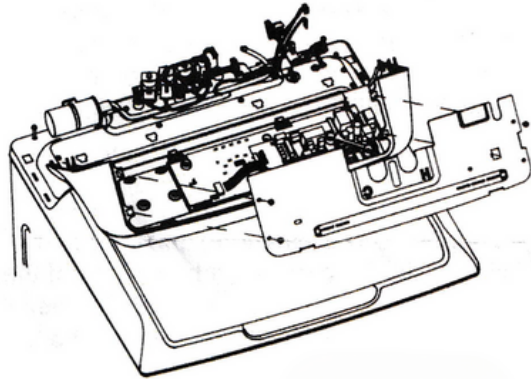

FIGURE 5
9. Once the pressure tube is disengaged from the main board, rotate the backsplash toward the front of the washer. Depending on the model being serviced, remove the (2) hex head screws securing the backsplash to the top cover and then slide the rear panel to the right, or (4) hex head screws securing the rear panel to the backsplash. *See Figure 5.* Disconnect the lid switch/lock harness from the main board and push through the top cover.